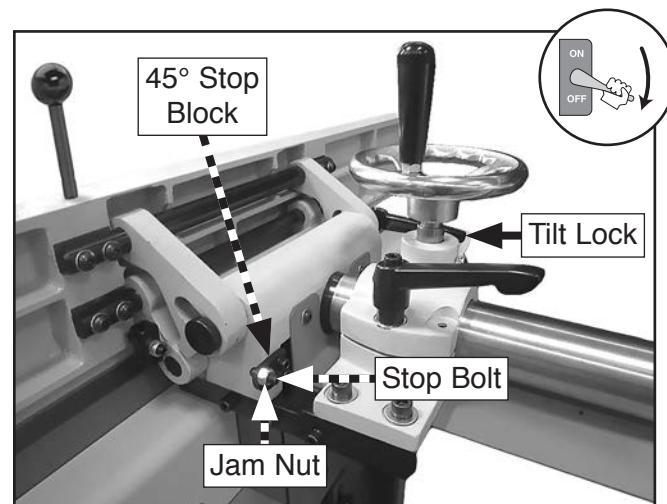

Figure 68. Fence 45° stop block components.
2. Loosen fence tilt lock and 45° stop jam nut, then back off stop bolt (see **Figure 68**).
The tables of your jointer MUST be parallel with the cutterhead and each other (see **Figure 68**) to ensure good cutting results and to reduce the risk of workpiece kickback.